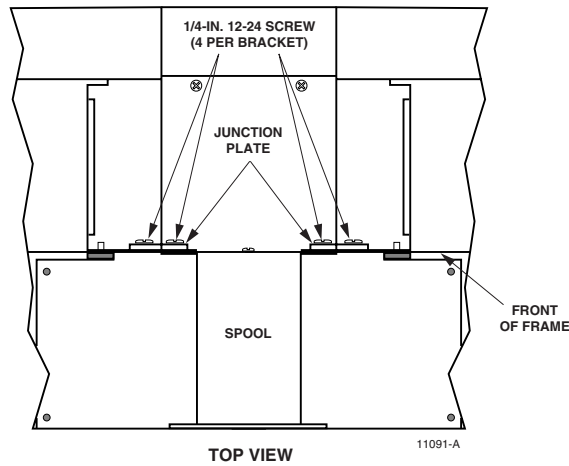

Figure 5. Top View of Panel Position
2. Align the mounting holes in the panel section with the corresponding mounting holes in the front flange of the adjacent frame. Figure 5 shows a top view of panel position.